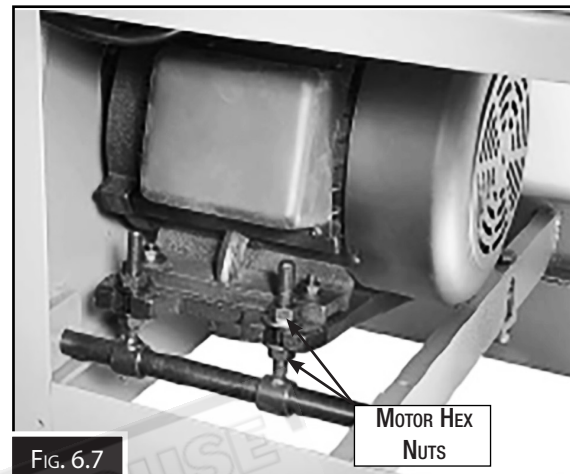

FIG. 6.7
5. To adjust the V-belt tension, loosen the top motor mount hex nuts (Fig. 6.7), then adjust the bottom hex nuts to raise or lower the motor.